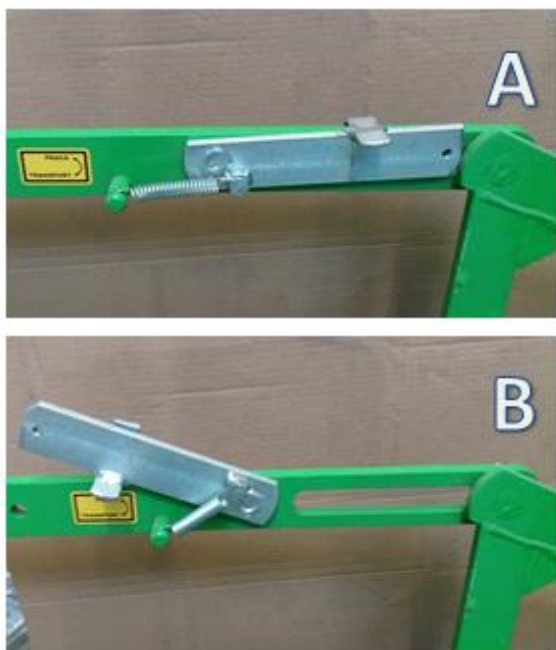

Figure 10 Interlock: transport position/working position
6. Manually place the mower in transportation position (Fig. 10), so the interlock pin is inserted into the hole in clevis (rope must be loose) (Fig. 11A).
5. Standing at the rear of the machine, pull the rope and remove locking pin from the clevis (Fig.11B), then rotate the mower to working position (Fig. 10).